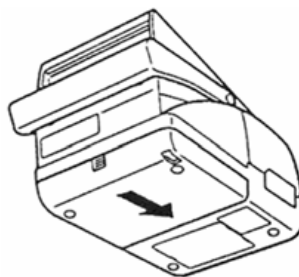

Figure 3-4b
- 2 Insert Battery Power Module in its place (Figure 3-4b).